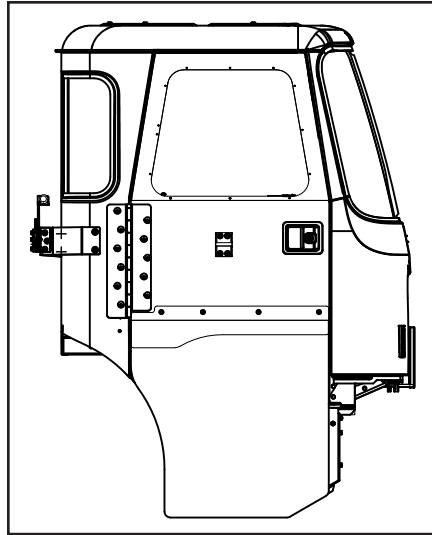

Figure 1
2. Unlock and open the right door (see *Figure 1*).